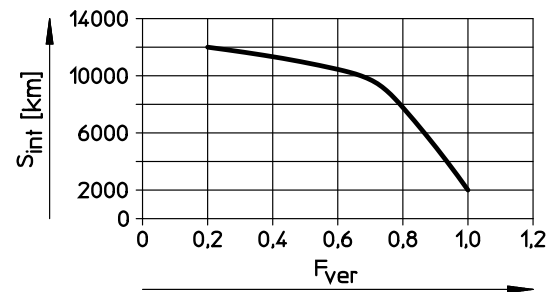

Fig. 11 Lubrication interval
The lubrication interval  $S_{int}$  is dependent on the load acting on the product. Cut the lubrication interval  $S_{int}$  → Fig.11 by half if any of the following situations apply:
2. Determine the lubrication interval  $S_{int}$  from → Fig.11.
- Determine the lubrication interval  $S_{int}$  from → Fig.11.